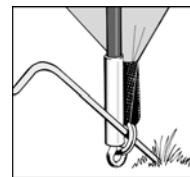

Figure 2.
- Start pegging out the tent at the front corners using steel V pegs. Pegs should be positioned at a 45° angle to ensure maximum grip (see figure 2).
- Peg the corners of the tent through the metal rings using pin-pegs. It is important to drive the peg into the ground at a 45 degree angle to obtain the best grip. **(See Figure 2).**